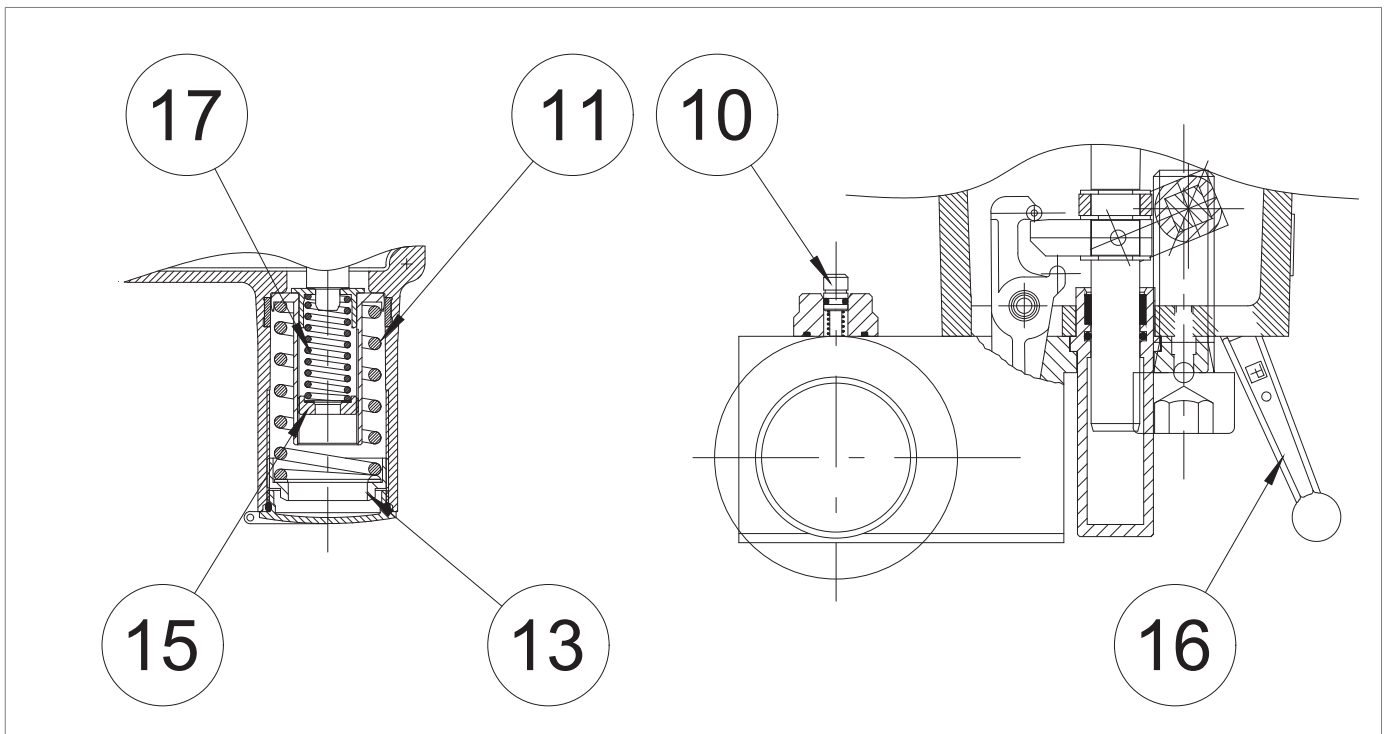

Fig. 8.34. Pressure switches calibration Models 102M/102MH - 105M/105MH
2	<p>Check that the slam-shut valve (9) is in the closed position.</p> <p>NOTICE! If the slam-shut valve (9) is in the open position, close it using the manual button (Fig. 8.34, ref. 10).</p>